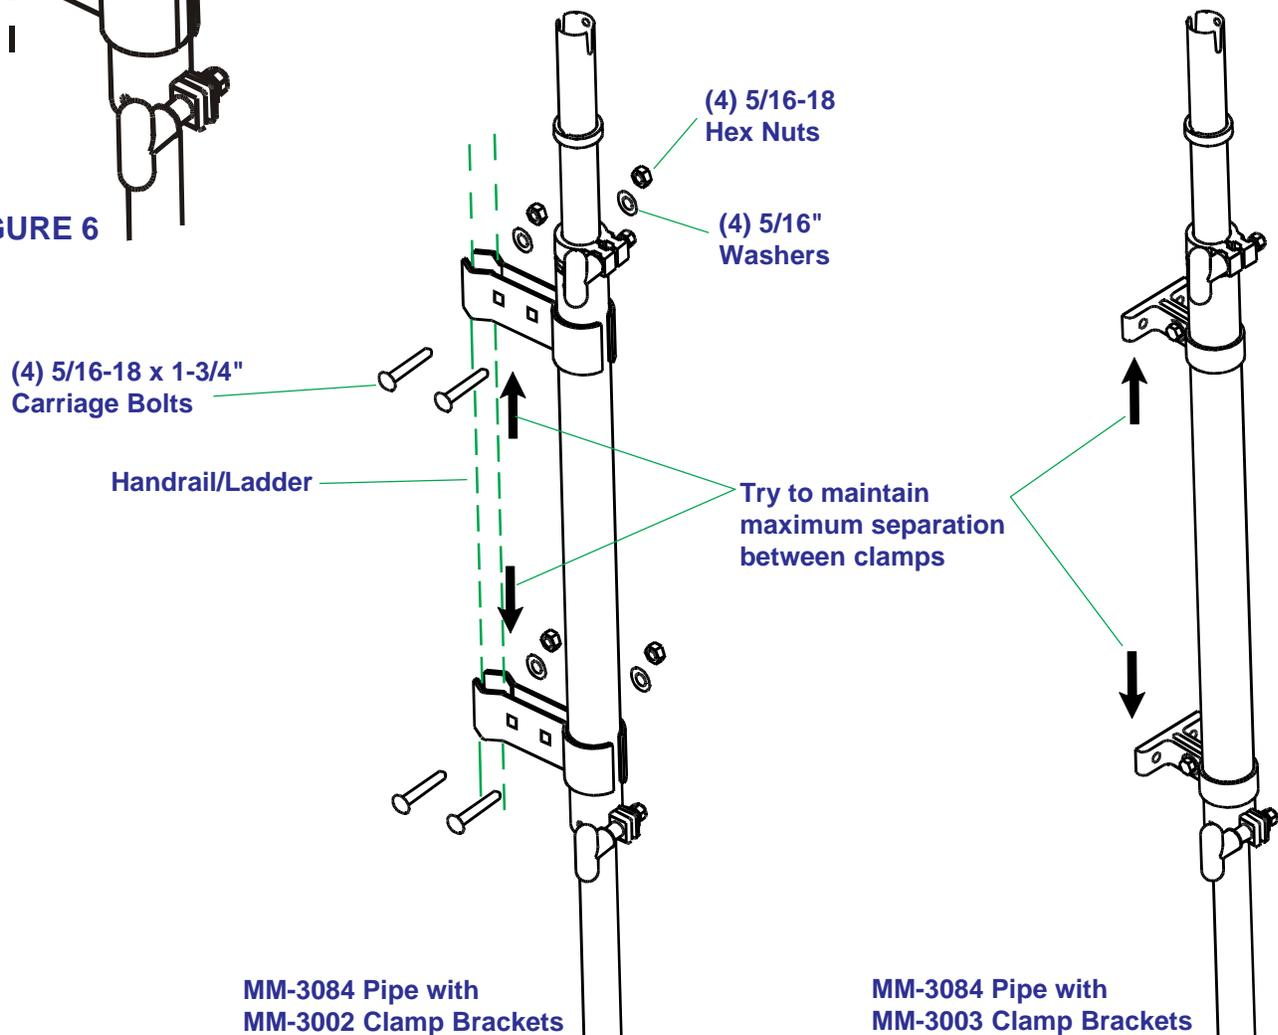

FIGURE 7
STEP 7. Use (4) 5/16" x 1-1/2" bolts supplied to secure pipe clamp brackets to side of truck/RV. See Figure 5. **Try to maintain as much separation between the clamp brackets as possible.** See Figure 7. It is recommended that you attach the top clamp with one bolt, then check vertical alignment before attaching bottom clamp and finishing top.
STEP 10. Attach clamp brackets to pipe and handrail/ladder using carriage bolts, nuts and washers supplied with MM-3002. Do not crush handrail/ladder. Try to maintain as much separation between the clamp brackets as possible. See Figure 7. Make sure pipe is vertical (straight up and down). You are now ready to aim the antenna; proceed to Operation, page 5.